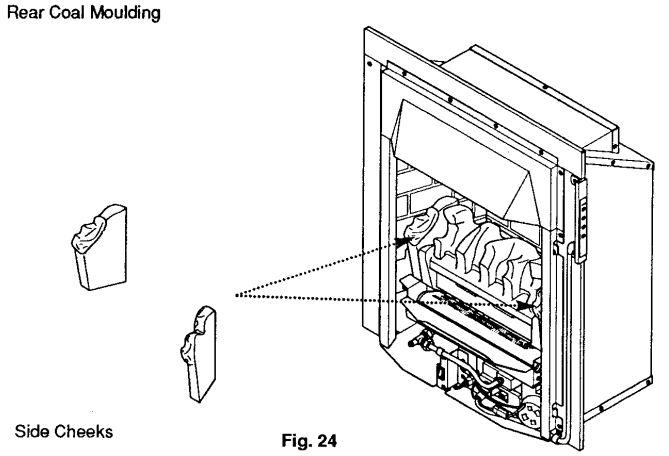

Fig. 24
2. Identify the left and right pieces marked L and R. Position the side cheeks either side of the rear coal moulding with the coal shaped moulding towards the front. The rear face of the cheeks should rest on the rear coal support with the bottom face resting on the protruding tabs of the rear coal support and the fixing brackets used to hold the burner tray to the sides of the combustion box (Fig. 24).